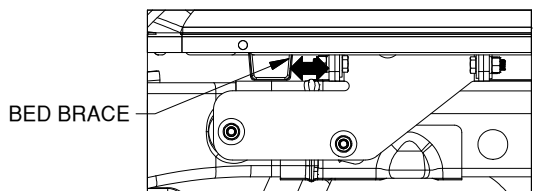

Figure D1: View of driver side wheel well.
- 2. Square the hitch.** With a tape measure, check the distance between the Turnoverball hitch and the nearest bed brace. The distance between the hitch and the bed brace should be consistent on the passenger side and the driver side of the hitch, see Figure D1. Adjust hitch until the distance is the same from side to side.